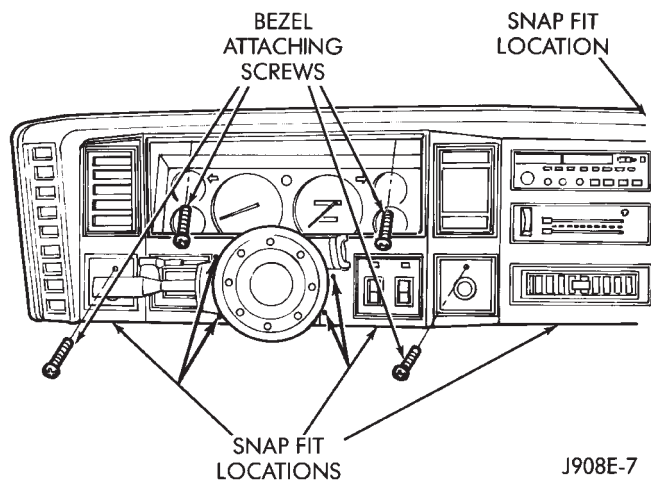

Fig. 37 Instrument Panel Bezel—XJ Vehicles
(1) Remove instrument panel bezel attaching screws and remove the bezel (Fig. 37).